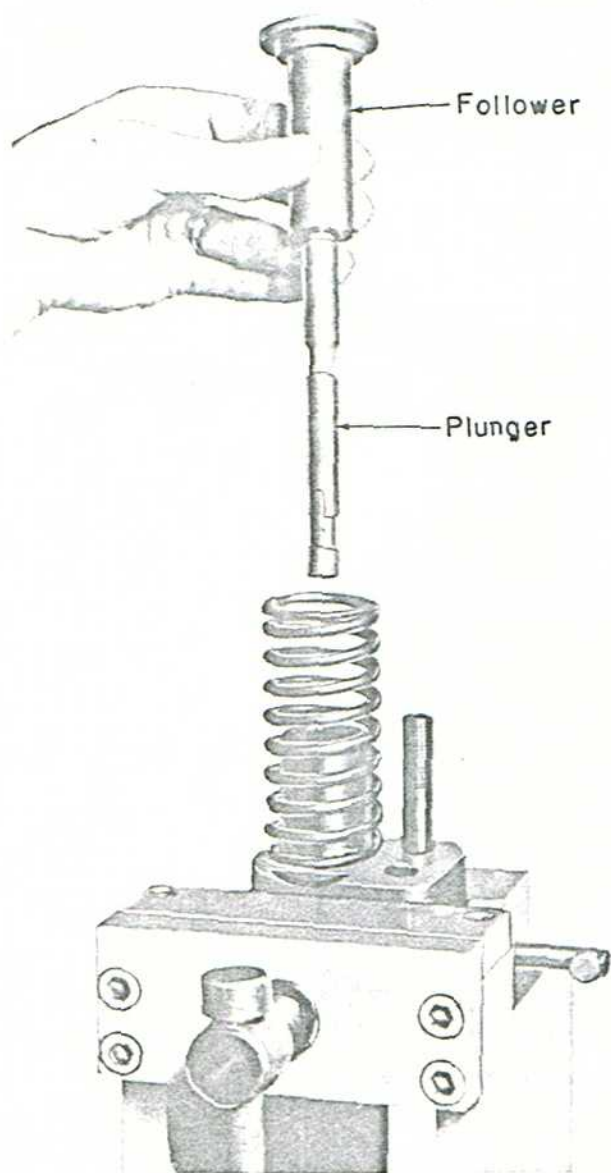

Fig. 23 - Plunger And Follower Installation
11. Turn the flat side of the plunger (or gear key way) to be at same side as the stop pin in the follower. Insert the assembly in the injector, Fig. 23. Release the stop pin when it contacts the body guide and by slightly moving the rack allow the plunger key way to enter the gear so the plunger will go down and the stop pin enter its slot.